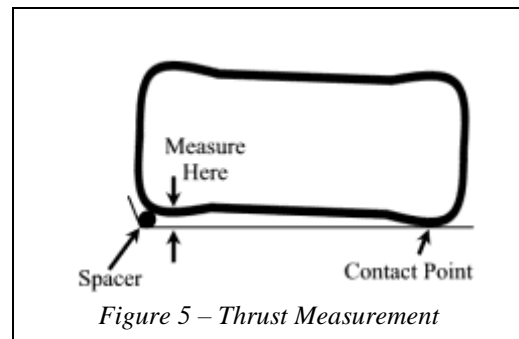

Figure 5 – Thrust Measurement
- Refer to Figure 5 for this step.
- a. if the Toe adjustment is correct (or somewhat close), the spacer position should look similar to Figure 5